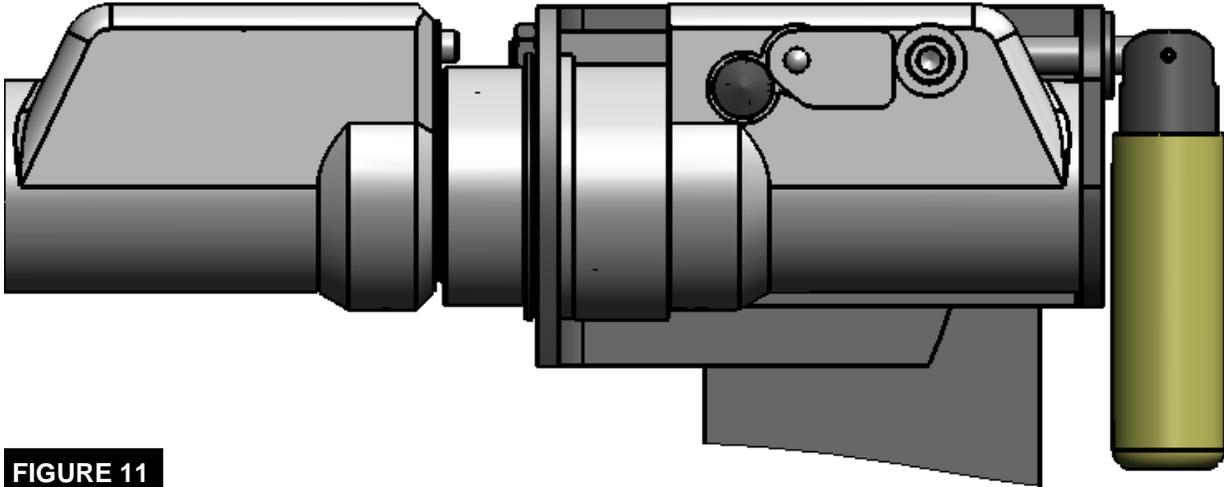

FIGURE 11
- Once the male plug is fully engaged, return the handle to the horizontal position to lock the coupler halves together. Pull the Male Half to make sure the latch is engaged. Rotate the bracket handle 5-6 turns counter clockwise so that it is no longer in the contact with the bracket and let it hang freely as shown in Figure 11. This is normal operating condition and will ensure the coupler will not disengage accidentally.